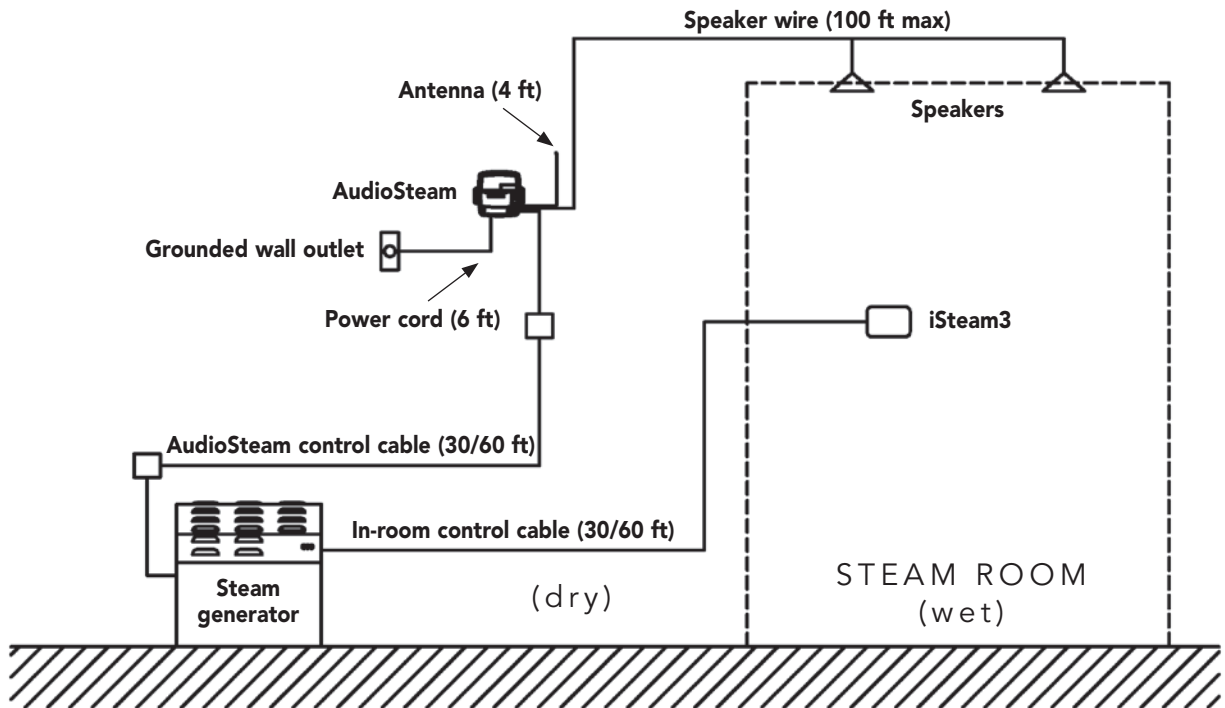

Figure 1
**Figure 1** shows how the AudioSteam interconnects with the steam generator, iSteam3, and audio speakers.